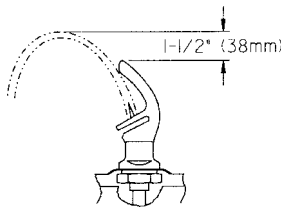
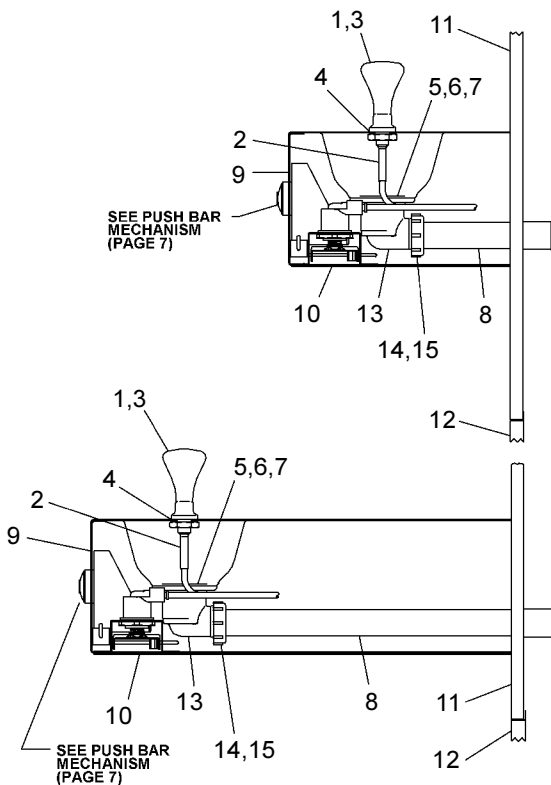

Figure 17 – Stream Height
Figure 18 – Fountain Assembly - Side View
- 10. Check stream height from bubbler.** Stream height is factory set at 35-40 PSI. If supply pressure varies greatly from this, remove the cover bottom (Item 10 – Figure 18) and adjust the screw on the regulator (Item 32 – Figure 15). Clockwise adjustment will raise stream height and counterclockwise movement will lower stream height. For best adjustment, stream height should be approximately 1-1/2" (38mm) above the bubbler guard. (See Figure 17).
- 11. Mount lower panel.** Loosen the two (2) #10-24 x 5/8" (16mm) screws at frame bottom lip. Slide upper tongue of lower panel under lower edge of already installed upper panel. Tighten previously loosened screws securely.